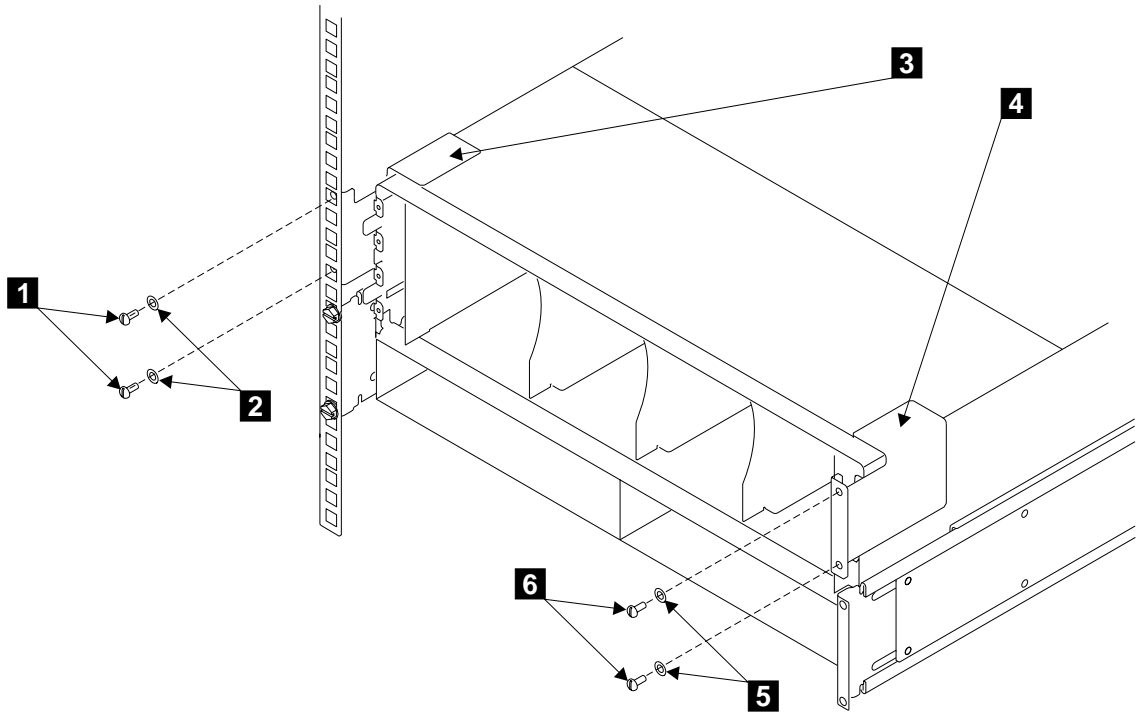

Figure 125. Removing the Back Brackets
Refer to Figure 125.
- a. Refer to Figure 125 on page 221.